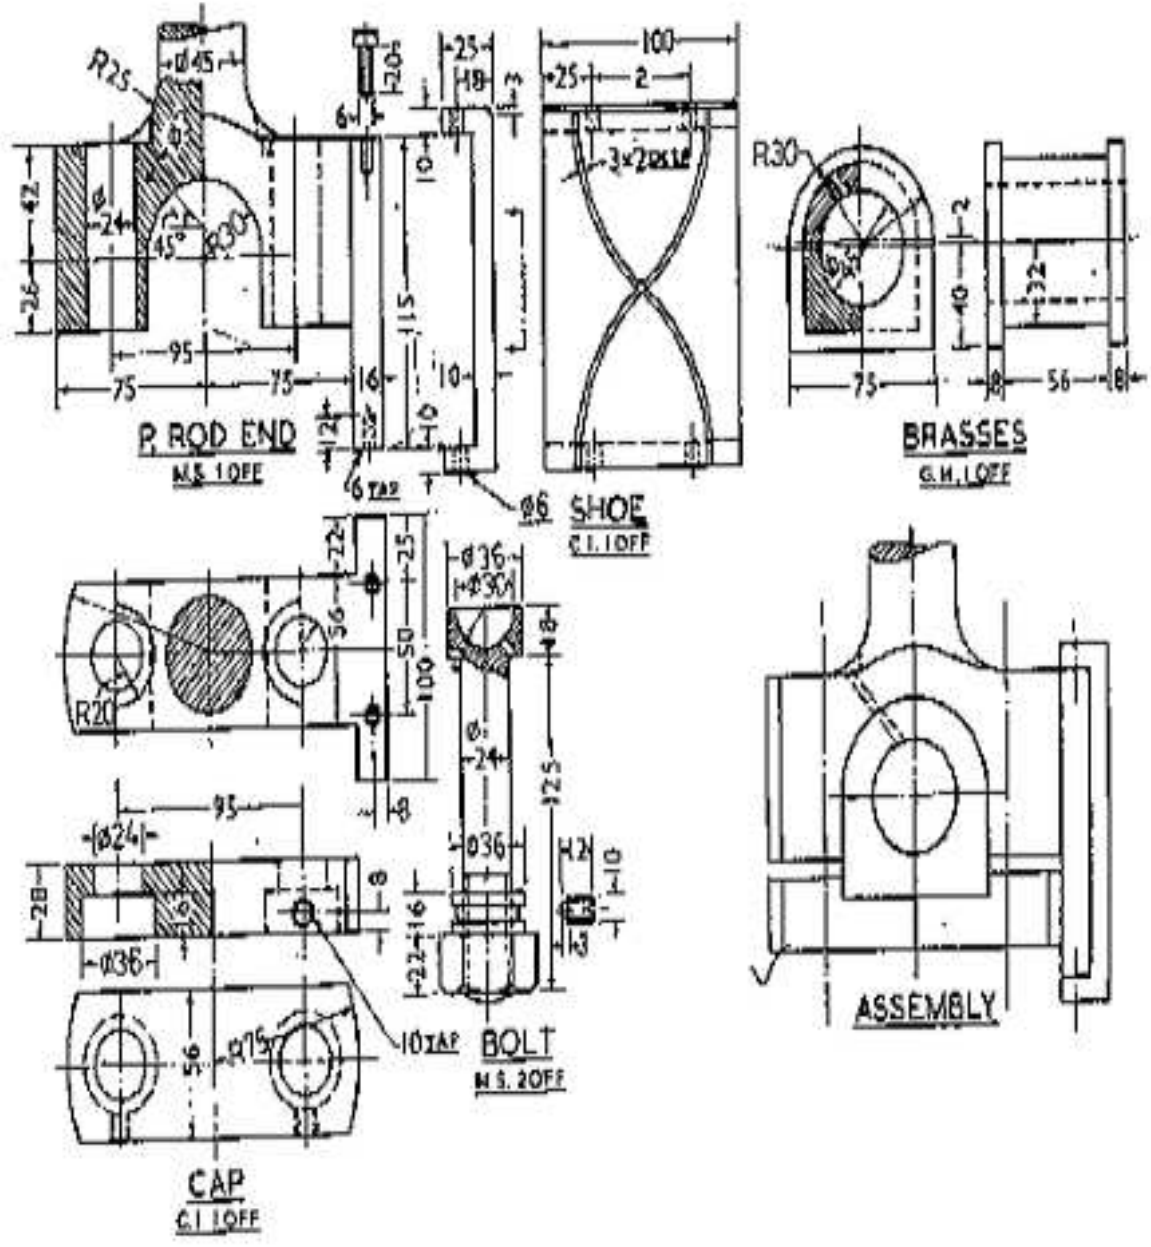

Figure 3:
2. The details of Cross Head are given in figure3 . Draw the following assembled views: [50]